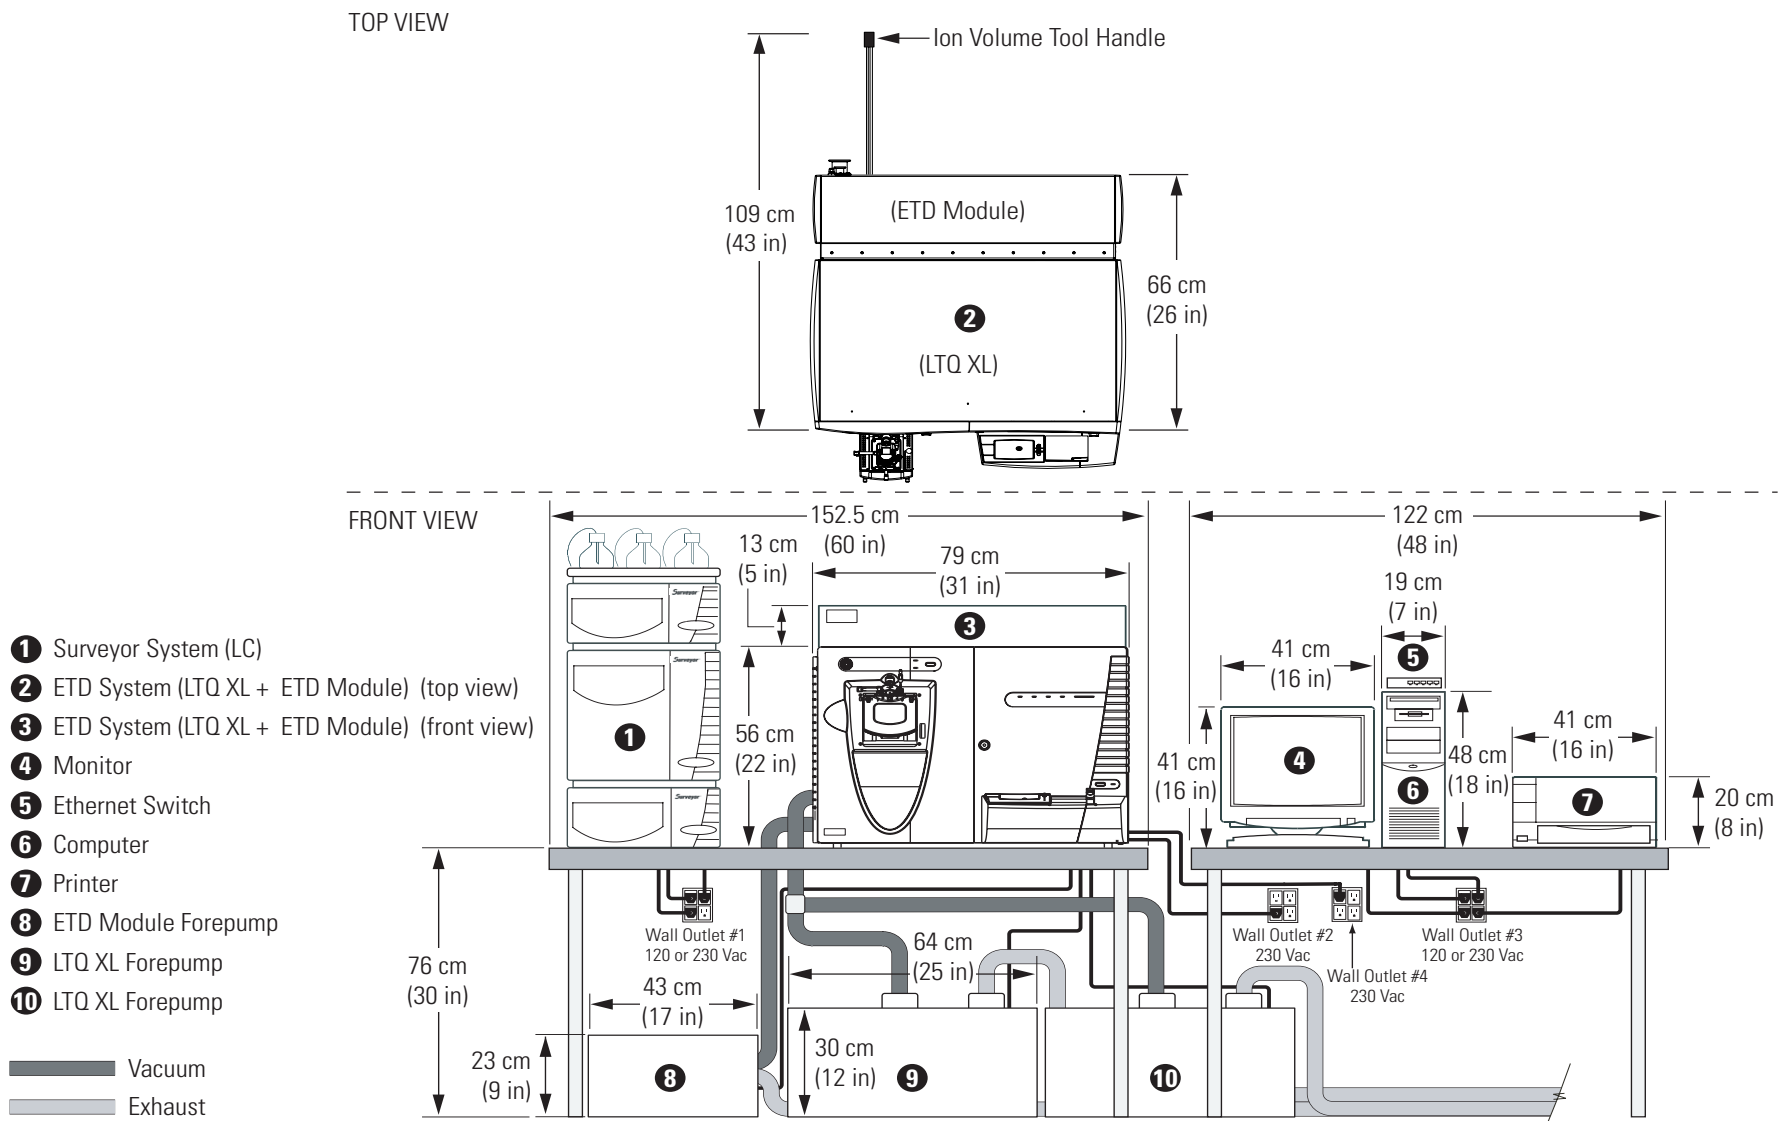

Figure 1. ETD system installation and space requirements
The recommended layout for the MS/ETD system is shown in Figure 1. The space requirements and weights of the components of the typical ETD system are given in Table 2.
Place the MS/ETD system and associated systems on two separate workbenches that are next to each other (see Figure 1). One workbench will hold the MS/ETD system, the LC, and any other MS/LC options and must have minimum dimensions of 1 × 1.53 m (3 × 5 ft). This workbench must also be capable of supporting the weight of the MS/ETD System [141 kg (310 lbs)] plus the weight of the liquid chromatograph and any other MS/LC options. Allow at least 92 cm (36 in.) of vertical clearance between the top of the MS/ETD System and any shelves above it.
- If the workbench has space beneath it, place the forepumps under the workbench immediately behind the MS/ETD System. See the tabletop layout in Figure 1. Either run the vacuum hose behind the workbench or make a 64 mm (2.5 in.) diameter hole through the bench for the vacuum hose. Allow for room to run the power cords from the forepumps through the hole.